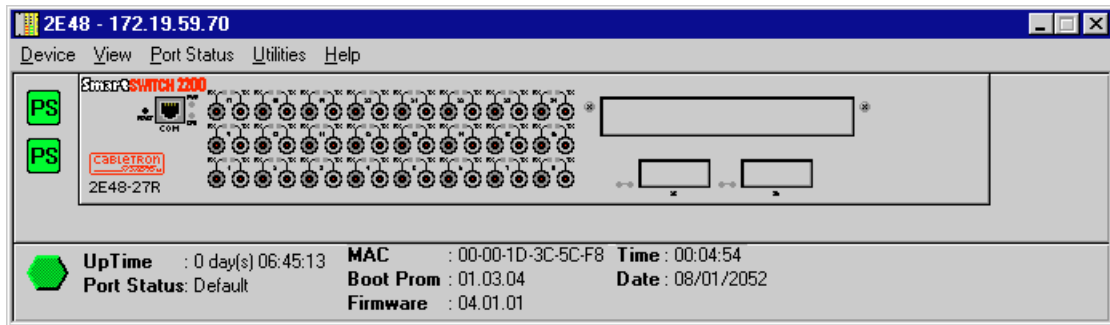

Figure 2-3. The SmartSwitch 2000 Chassis Physical View
2. Select **Physical**. The Chassis Physical View, Figure 2-3, will appear.